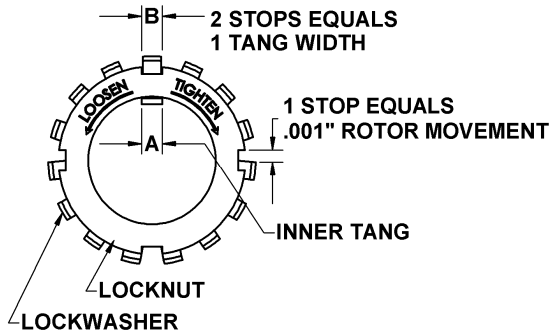

Figure 8- Locknut Assembly
It is important that the bearing locknuts (24A) and lockwashers (24B) be installed and adjusted properly. Overtightening locknuts can cause bearing failure or a broken lockwasher tang. Loose locknuts will allow the rotor to shift against the discs (71), causing wear. See Figure 8.